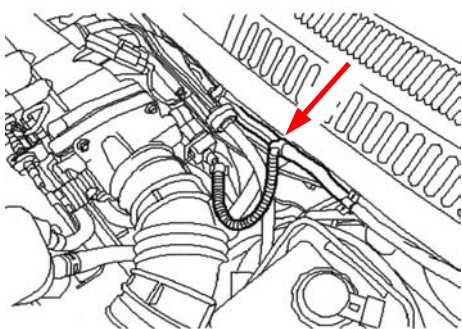

Fig. 5
- Wrap insulating tape around the cable and lay it in the main wiring harness (see Fig. 5).